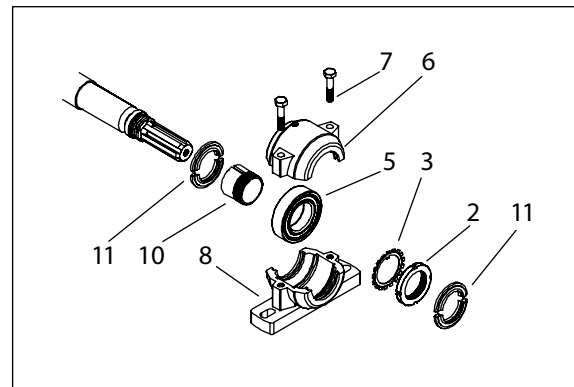

Fig. 7b. Bearing, splined shaft side
The bearings at the feeder side and splined shaft side are different from each other. The bearing at the splined shaft side, Fig. 7b., does not have spacer rings (4 and 9) and an end plate (1). The bearing at the splined shaft side has dust covers on both sides (11).